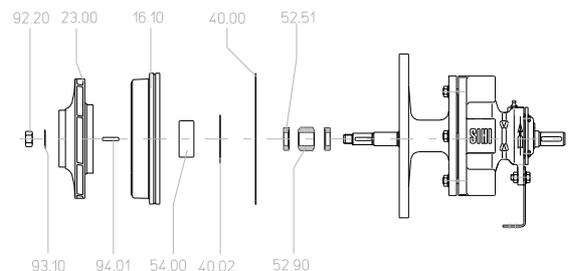

Fig. 2
4. Bend up tab washer 93.10 and loosen impeller nut 92.20 (fig 2).